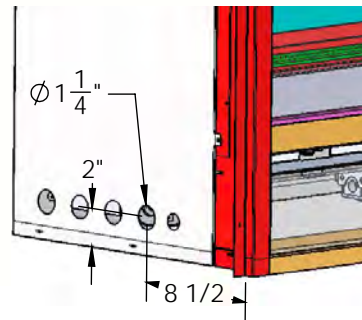

Figure 22. Gas line access.
- n See Figure 22 for location of gas line access.
Non-combustible mantels and mouldings may be safely installed **over the top and on the front of the fireplace provided that they do not project beyond shaded area shown in Figure 22.**